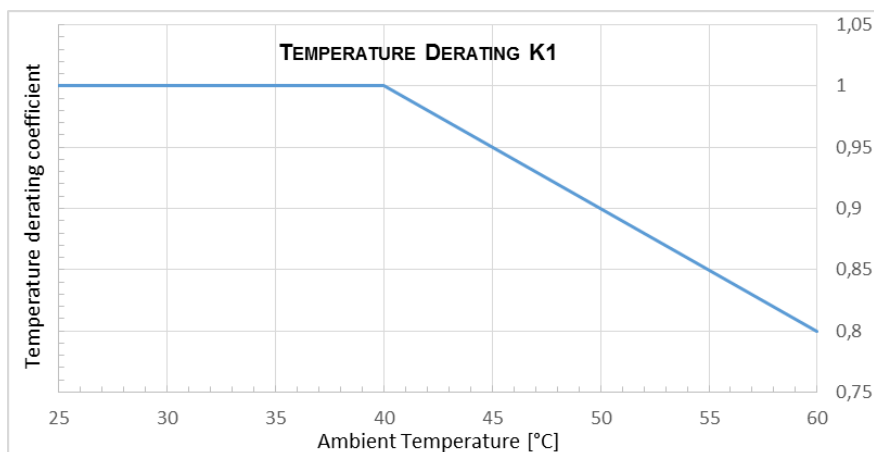

Fig. 2-10: Temperature derating coefficient for all size
- Ambient temperature (K1) Fig. 2-10